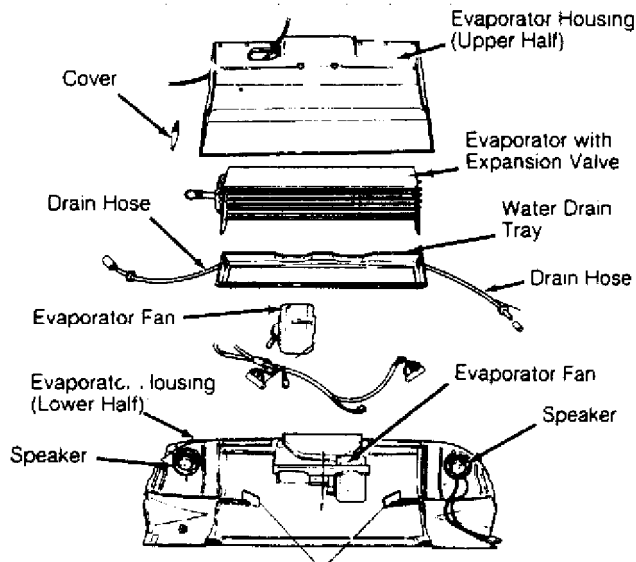

Fig. 4: Exploded View of Evaporator Assembly (Vanagon)
3) Support evaporator housing. Remove left and right side evaporator housing mounting screws. Lower evaporator housing. Remove evaporator housing covers. Remove evaporator. See Fig. 4. To install, reverse removal procedure. Evacuate and recharge system.